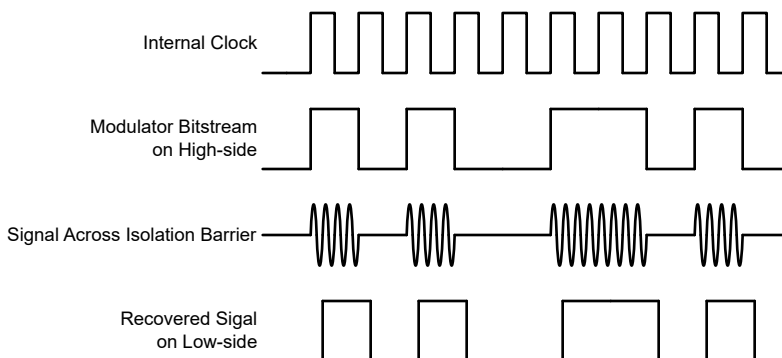

Figure 7-1. OOK-Based Modulation Scheme
The AMC1351-Q1 uses an on-off keying (OOK) modulation scheme, as shown in Figure 7-1, to transmit the modulator output bitstream across the SiO₂-based isolation barrier. The transmit driver (TX) shown in the *Functional Block Diagram* transmits an internally-generated, high-frequency carrier across the isolation barrier to represent a digital one and does not send a signal to represent a digital zero. The nominal frequency of the carrier used inside the AMC1351-Q1 is 480 MHz.